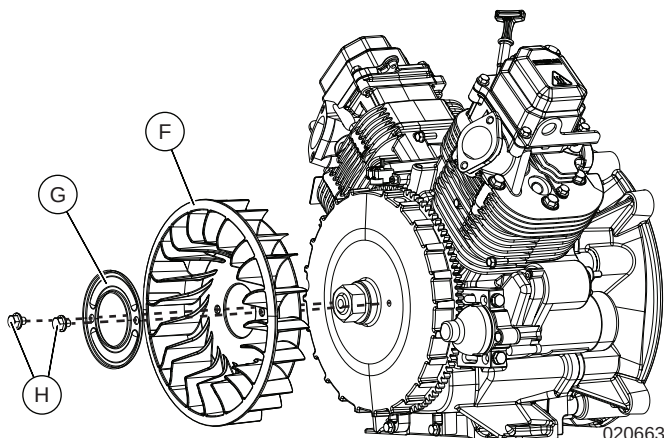

Figure 7-9. Install Flywheel Fan
6. See Figure 7-9. Install fan (F) and fan plate (G) to flywheel using two fasteners (H).